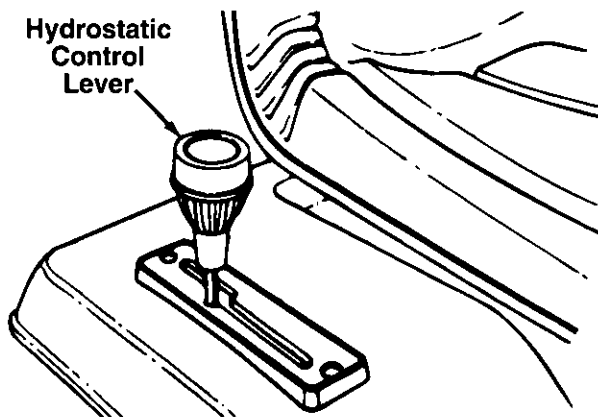

FIGURE 10.
The hydrostatic control lever is located on top of the fender on the left side of the tractor. This single control lever, connected to the hydrostatic transmission, controls both the speed and direction of the tractor. Infinite speed control is achieved by moving the control lever forward or backward. The farther forward or backward you move the control lever, the faster you will travel. Pulling the control lever into neutral (N) area will stop the tractor. See figure 10.